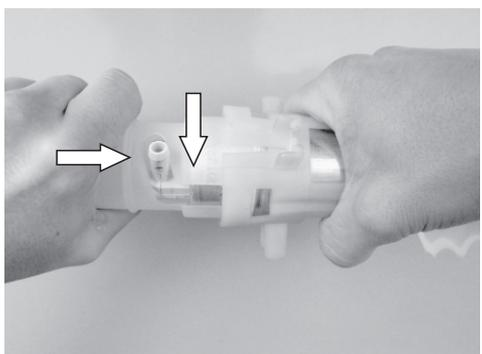

Fig. 4
- Rotate the tool to one side, so that the angled pressure joint of the pump engages with the recess in the tool (see → fig. 4).